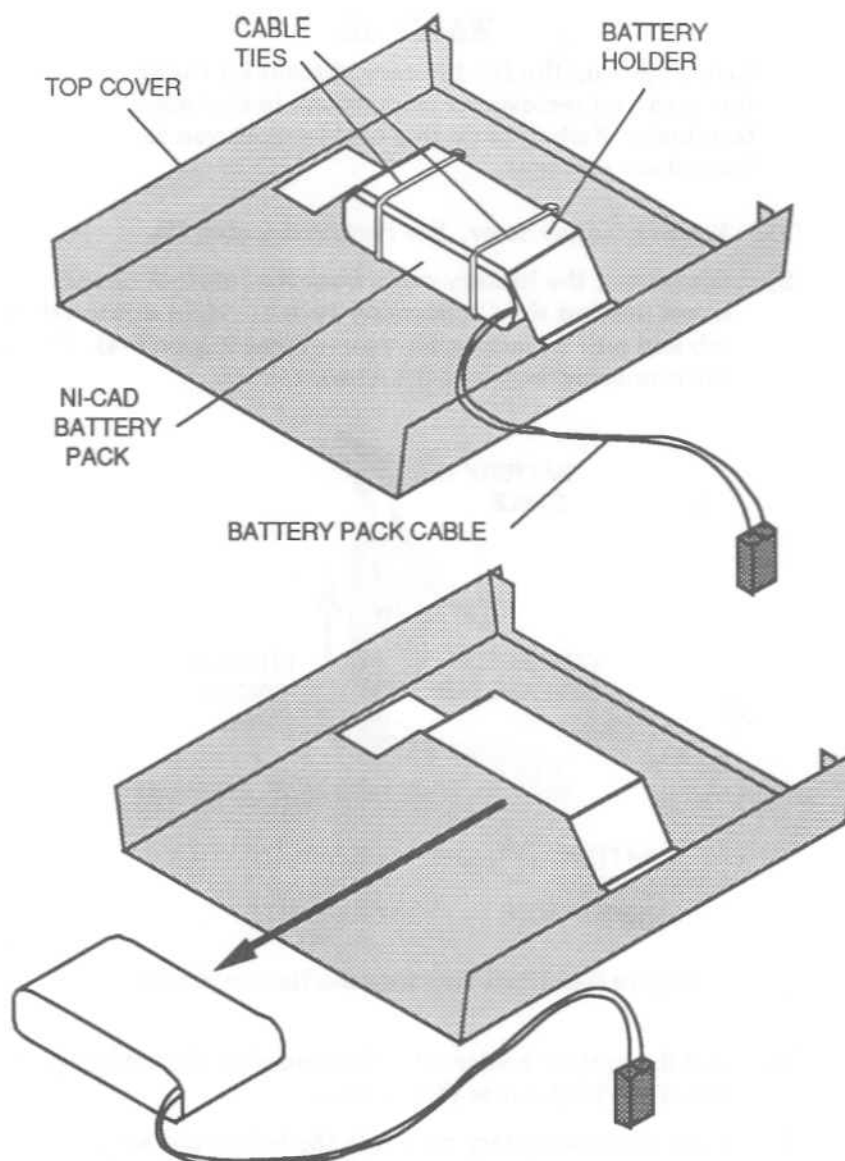

Figure 6-5. Battery Pack Replacement
- (3) Cut the battery holder cable ties and slide the battery pack out of the holder (see Figure 6-5).
- (5) Slide the new battery pack into the holder and secure it with the two new cable ties supplied with the replacement battery pack.